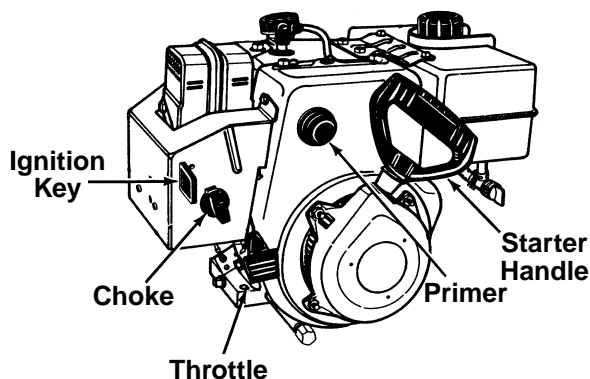

Figure 16
4. Move throttle control up to FAST position. Insert ignition key into slot. See figure 16. Be certain it snaps into place. **Do not** turn key.
8. **Recoil Start Only:** Push primer button two or three times. If engine is warm, push primer button once only. See figure 16.
Recoil Start: Grasp starter handle (see figure 16) and pull rope out slowly, until it pulls slightly harder. Let rope rewind slowly. Pull starter handle rapidly. Do not allow handle to snap back. Allow it to rewind slowly while keeping a firm hold on the starter handle.
At least once a season or after every 25 hours of operation, remove rear cover. Lubricate any chains, sprockets, gears, bearings, shafts, and shifting mechanism at least once a season. Use engine oil or a spray lubricant. **Avoid getting oil on rubber friction wheel and aluminum drive plate.** Refer to figure 16.